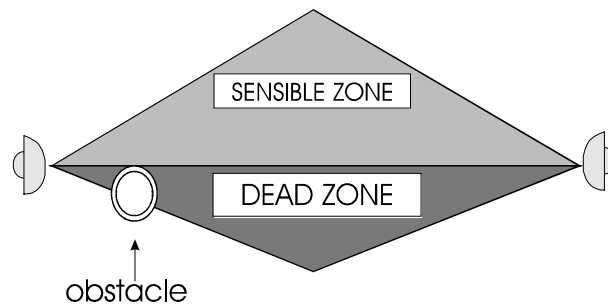

Figure 4 - Sensitive zone in the presence of an obstacle
- **The nature of the obstacles**, eventually present, provokes either a reflection or an absorption, or a combination of both these phenomena in confrontation with the electromagnetic energy contained. Therefore, different alterations of the protection field occur depending on the nature of the obstacles. (FIG. 4)